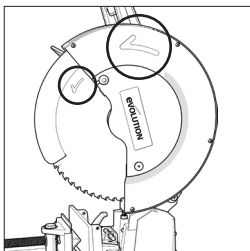

Fig. 6
- Install the blade onto the inner blade flange and arbor, ensuring that the direction and rotation arrow on the blade matches the direction of arrow rotation found on the machine's upper blade guard. **(Fig. 6)**